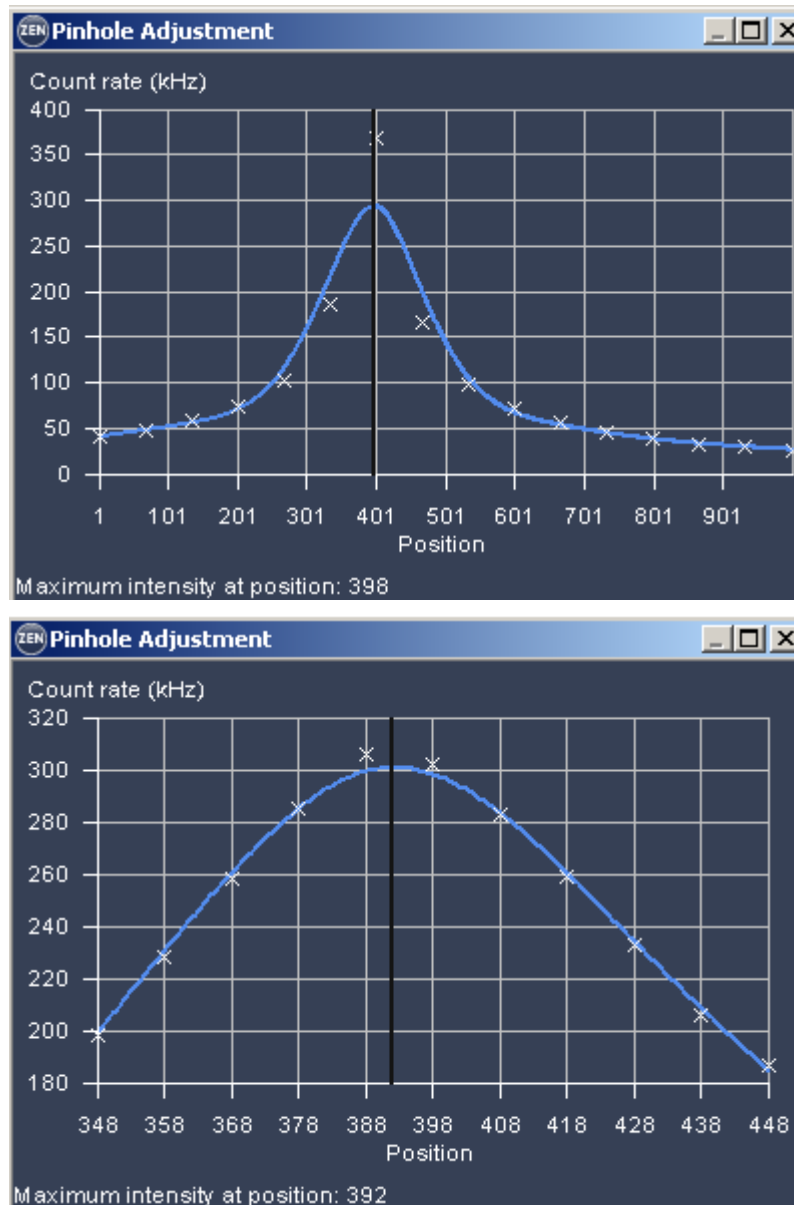

Fig. 9-34 Automatic Pinhole Adjustment in x coarse (left) and x fine (right)
- Click on the **X** and on **Y** auto adjust buttons to perform a coarse / fine alignment of the pinhole in x and y, respectively. In either case, the **Pinhole Adjustment** window will appear (Fig. 9-34). In the Count Rate/Position diagram, the crosses correspond to the measured intensity (count rate). The line corresponds to the intensity curve fitted to the data points to find the optimum pinhole position. The pinhole will be automatically positioned to the maximum. If a maximum will not be found in the fine alignment, the system will give a warning message. In this case, a coarse alignment must be performed before the fine adjustment.